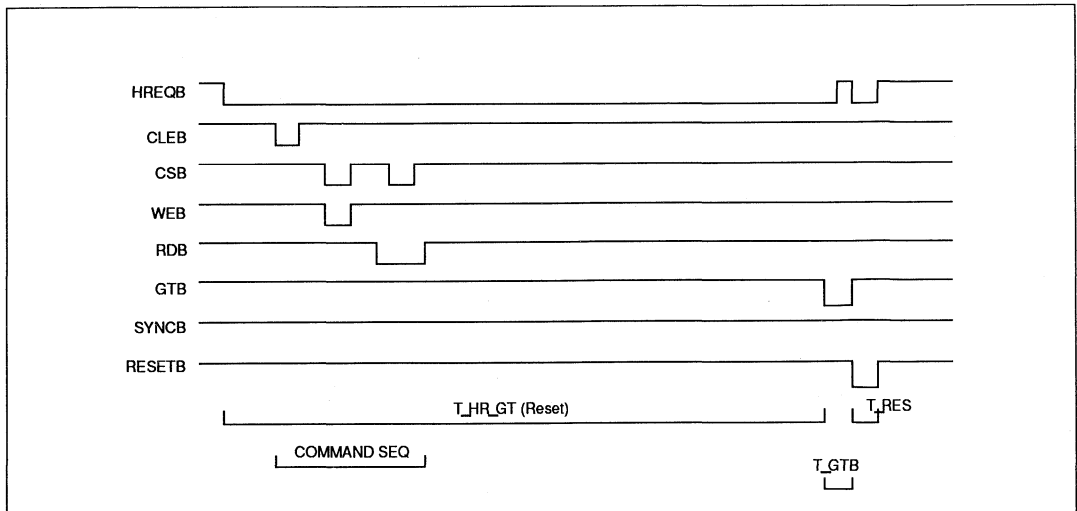

Figure 2.12: Reset
**RESET MODE CODE** (Figure 2.12)